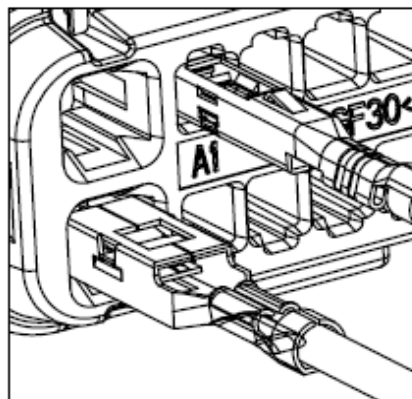

Figure 2
- Orient the female terminals correctly with each terminal position opening in the retainer of female connector assembly as shown in figure 2.